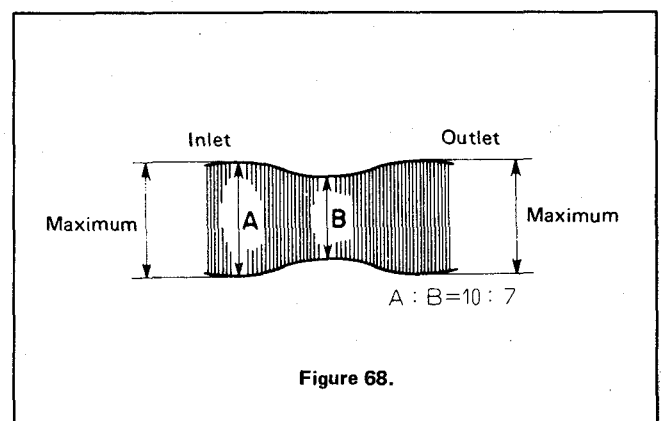

Figure 68.
2. Check, even with a rotation of the tracking knob, that the ratio of A against B (of Fig. 68) is fixed at 10 : 7 or more.